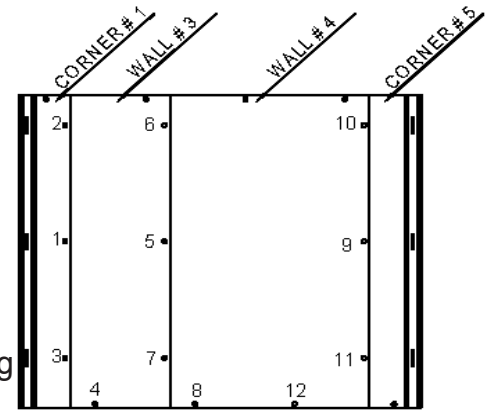

FIGURE 4A - WALL LOCKING SEQUENCE
3. The typical and best sequence of locking the wall panels and floors together to ensure the wall panels are aligned at the top and bottom can be seen in Figure 4A.